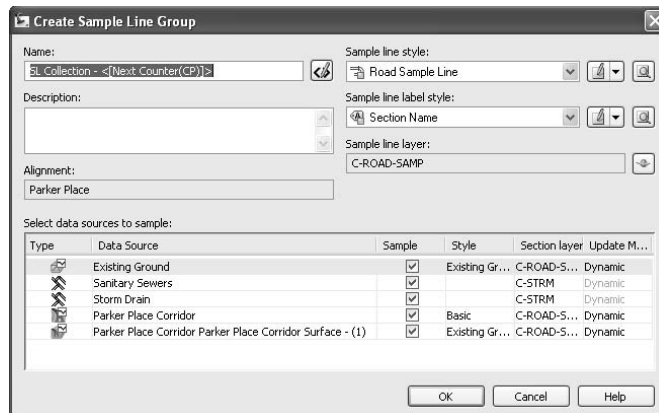

Figure 11.4
3. In the Select Alignment dialog, choose Parker Place. Click OK. The Create Sample Line Group dialog will appear, as shown in Figure 11.4.